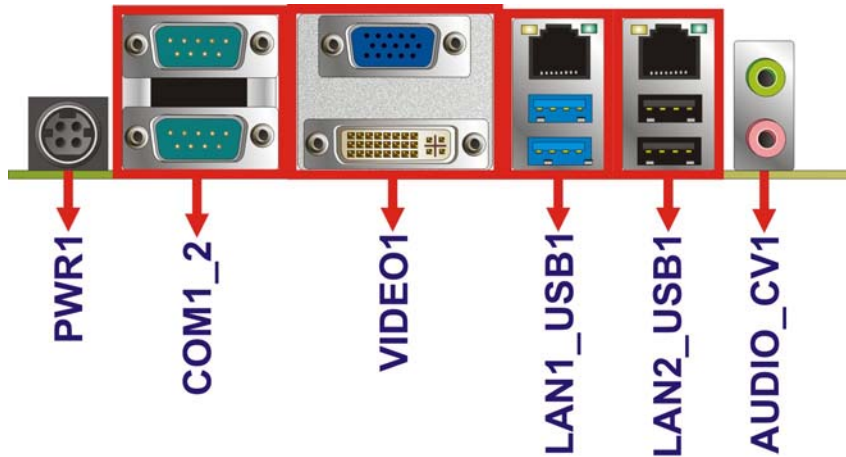

Figure 3-25: KINO-DH810 External Peripheral Interface Connector
Figure 3-25 shows the KINO-DH810 external peripheral interface connector (EPIC) panel.
CN Location: See **Figure 3-25**
- CN Location:** See Figure 3-25